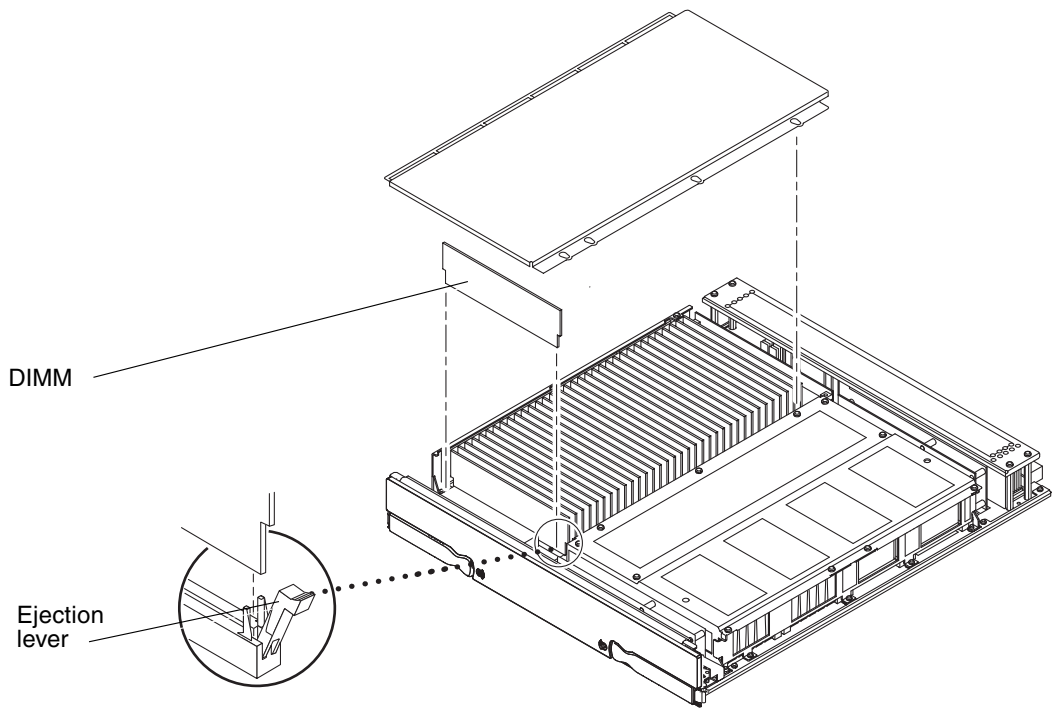

FIGURE 9-11 Removing a DIMM
5. Eject the faulty DIMM by pressing down on the ejection levers on both sides of the DIMM connector (FIGURE 9-11).